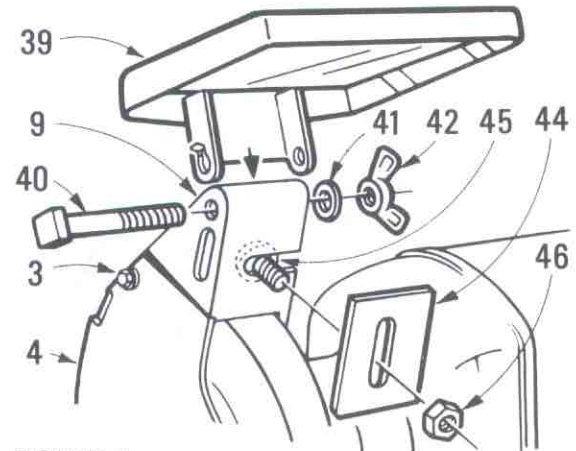

FIGURE 1
1. Attach wheel covers (4) to wheel guards (9) using six screws (3) furnished. See figure 1.
2. Fasten eyeshield (39) to top of wheel guards (9) using bolts — $\frac{1}{4}$ -20 x 2 (40) and wing nuts (42). Always place washer (41) between tab of eyeshield and inner side of wheel guard on both ends of grinder. See figure 1.
3. Attach spark arresters (44) to top front of wheel guards (9) as shown. Note that head of screw with lock-washer attached (45) slides into slot provided. Adjust spark arresters to $\frac{1}{16}$ from wheel and tighten nuts (46). See figure 1.